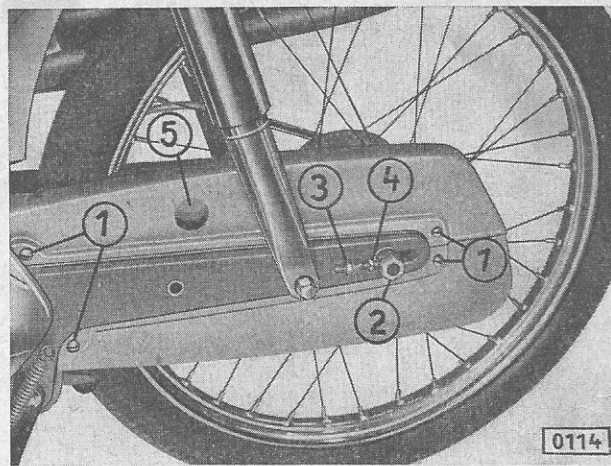
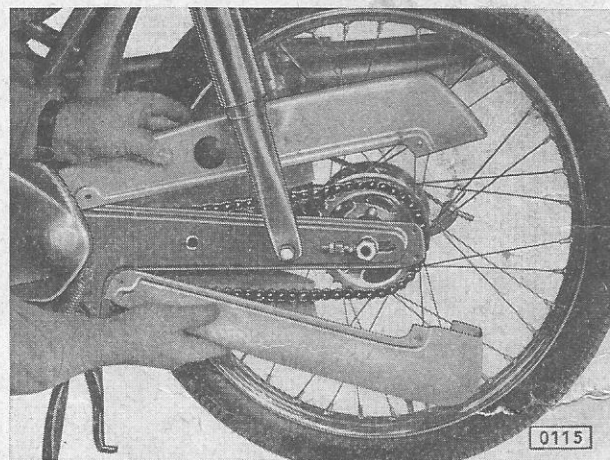

Fig. 14: Dismantling the rear wheel:
Fig. 15: Removing chain guard
1. Take down chain guard (Fig. 15) after opening the four front screws (Fig. 14/1) and the rear tightening strap.
Be careful to check chain tension with loaded motorcycle! In the middle between the two sprockets, the chain should have an up-down play of 10 to 15 mm (Fig. 14/5). Take care also to reset the brake retaining shackle of the brake plate in case of repeated re-stretching of the chain. Three fastenings are provided for this purpose for the retaining shackle to be screwed upon. In case of chain renewal, fasten the retaining shackle again on foremost fastening.
1. Slacken counter nuts (Fig. 14/3).
3. Tighten both chain-stretching screws (Fig. 14/3)